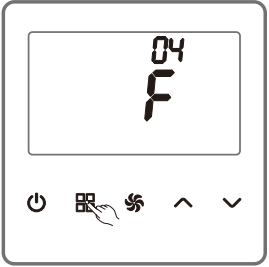

Figure 10
(4) Temperature unit setting
Celsius (°C) or Fahrenheit (°F) is available. As shown in the Figure 10, on the parameter setting page, press  (MODE) to switch the option number to 04.  (UP) or  (DOWN) is provided to allow a switch between Celsius (°C) and Fahrenheit (°F).